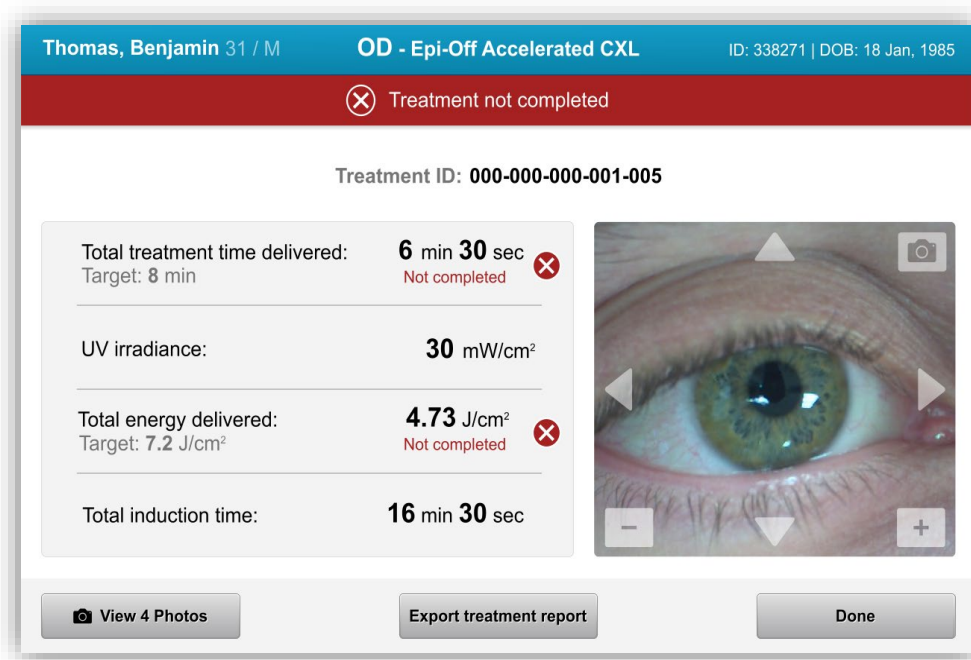

Figure 3-31. Partial Treatment Not Completed
- Partial Treatment information will be displayed as shown in Figure 3-31.